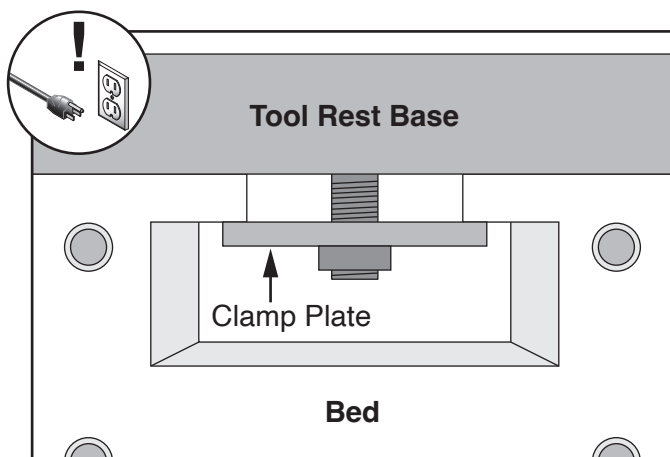

Figure 52. Clamp plate aligned under bedway.
4. Install tool rest base on bed by aligning clamp plate under bedway (see **Figure 52**).